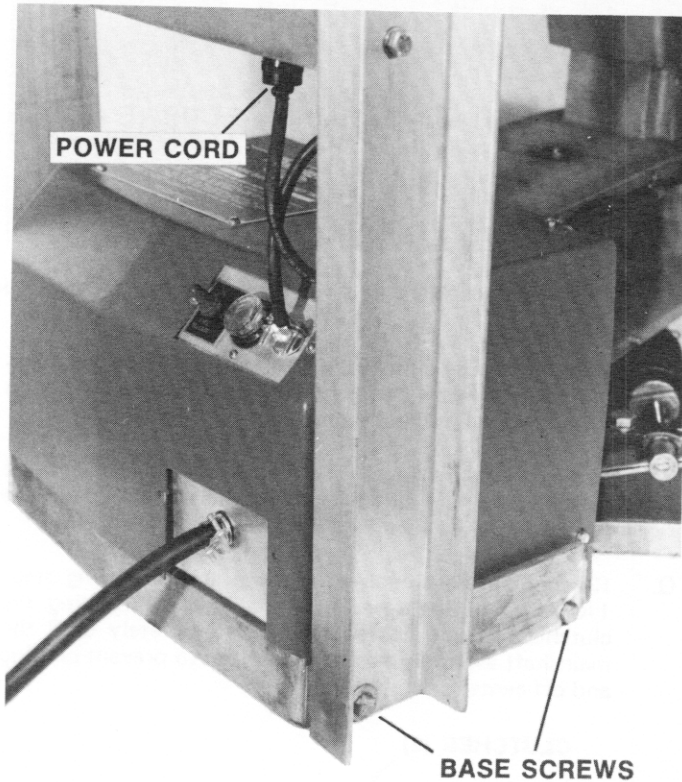
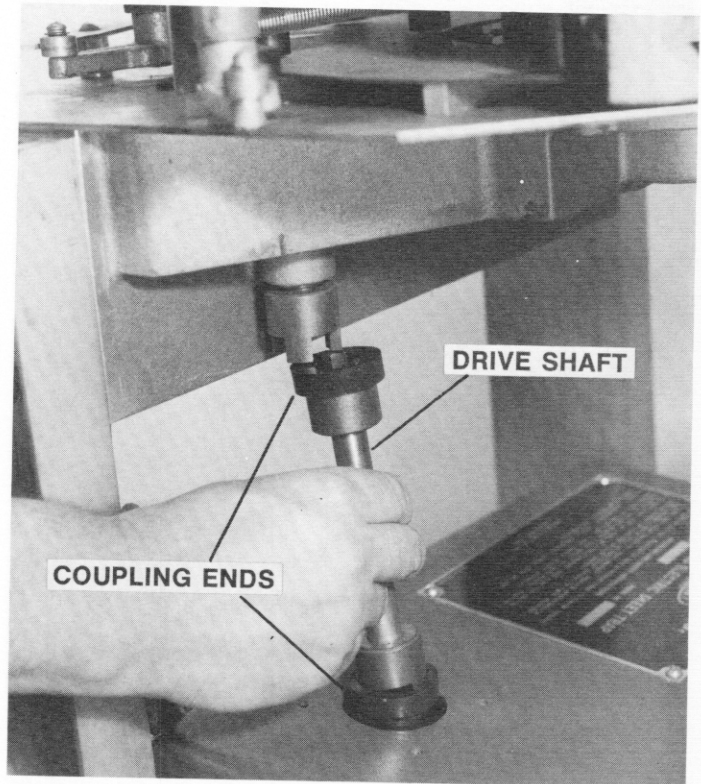

Figure 8 — Power Cord and Leg Attachment Screws
Figure 9 — Drive Shaft and Coupling Spacers
- B. Detach power cord at magazine gearbox by turning counterclockwise and pulling out (see Figure 8).
- C. Loosen the four screws that hold magazine support legs to base (see Figure 8). Pull up on both legs and remove magazine assembly. Be careful not to lose drive shaft or the two molded rubber coupling spacers that fit in coupling ends (see Figure 9).